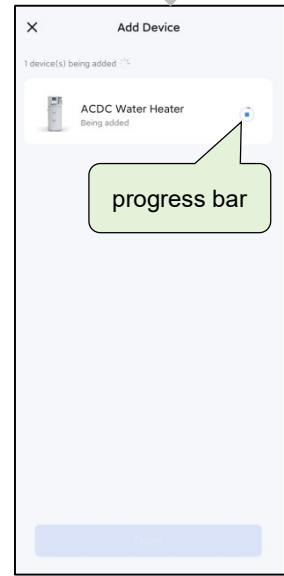

Fig.15 Connecting device
7. The system starts to connect to the device and the connection progress bar will be displayed on the right (Fig.15);